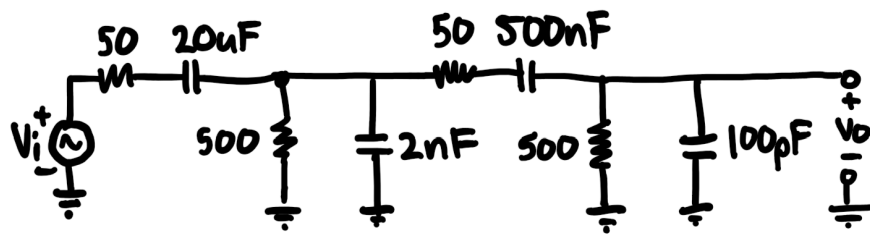

Figure 2.1 Bode Magnitude Plot: Simulation vs Miller's Theorem
- A. A simple four pole RC filter is presented below in Figure 2.1. We will use the method of OC and SC time constants to find the transfer function of such a filter.
First, simulating and extrapolating to find simulated Figure 2.1 poles.
We can break the circuit from Figure 2.1 down into three circuits given the capacitance. As our range of capacitance for C_4 crosses through C_2 , we have to define our OC & SC ranges carefully. I will use the method described in class to classify OC & SC. A capacitor is “much larger” when it is a factor of 10 larger